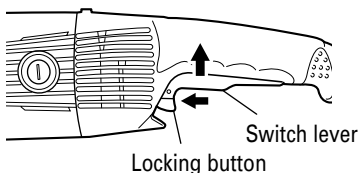

Fig. 3
2. Turn the grinder "on" (Fig. 3)